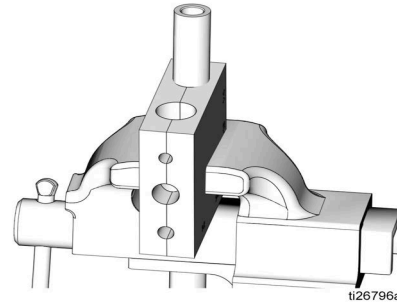

FIG. 2
7. Secure the vise block in a vise. The hose end should face upwards as shown in FIG. 2.